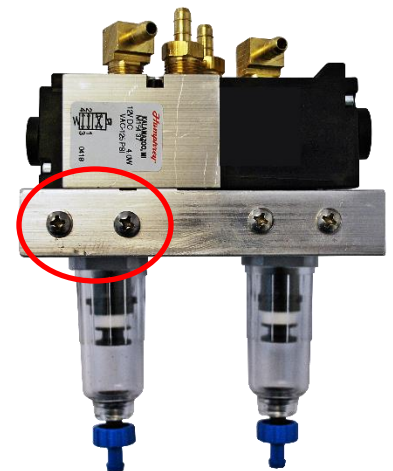

FIGURE 16
- 26) The filter is mounted between the primary manifold and sensor assembly. Each filter is retained by two 6-32 Philips head screws that run through the primary manifold and filter and are threaded into the sensor assembly. See **FIGURE 16**.
- 30) The manifold is secured by three Phillips head screws; one against the edge of the channel and two on the opposite side. See **FIGURES 16** and **17**. Remove these screws to access the filter screws on the bottom of the manifold assembly.
- 31) Remove the screws securing the filter, shown in **FIGURE 16**. Do not lose the O-rings located between the filter and the manifolds.